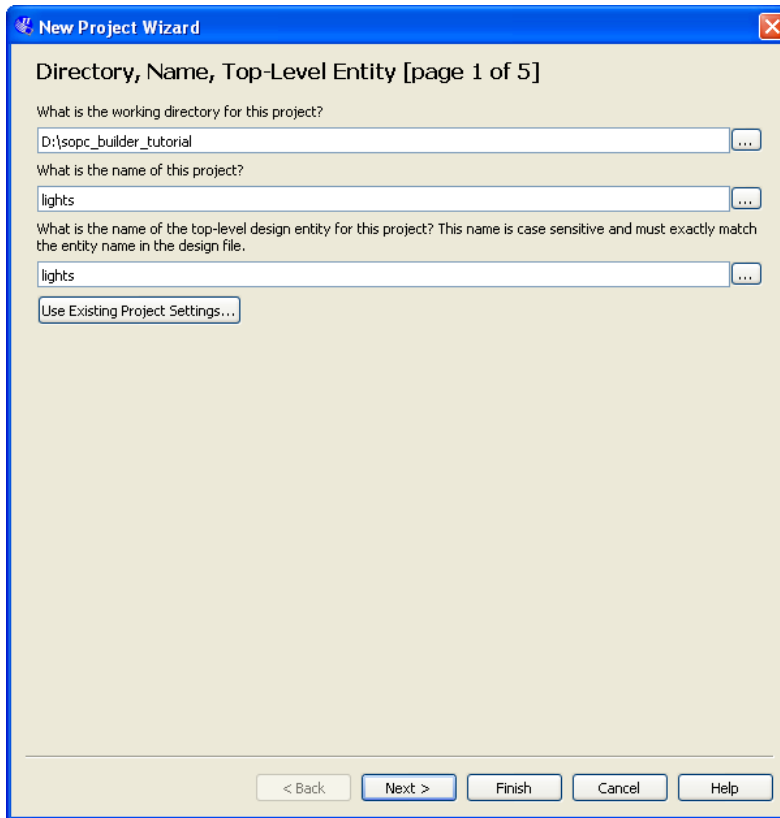

Figure 3. Create a new project.
1. Create a new Quartus II project for your system. As shown in Figure 3, we stored our project in a directory called *sopc\_builder\_tutorial*, and we assigned the name *lights* to both the project and its top-level design entity. You can choose a different directory or project name, but be aware that the SOPC Builder software